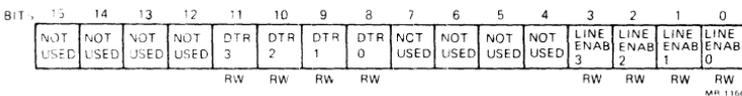

Figure 7 Transmitter Control Register Bit Assignments
**Transmitter Control Register** – The transmitter control register (TCR) is a byte- and word-addressable register. The low byte of the TCR contains the transmitter control bits which must be set to initiate transmission on a line. Each TCR bit position corresponds to a line number. For example, TCR bit 0 corresponds to line 0, bit 1 to line 1, etc. Setting of a TCR bit causes the transmitter scanner clock to stop if the UART for this line has a transmit buffer empty condition. An interrupt will then be generated if transmitter interrupt enable is set. The scanner clock will restart when either the transmit data register is loaded with a character or the TCR bit is cleared for the line on which the clock has stopped. TCR bits must only be cleared when the scanner is not running. The format is shown in Figure 7.